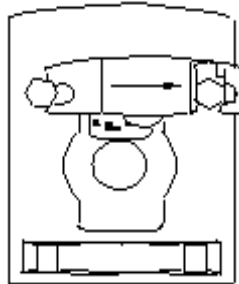

Figure 4.
2. Slide the knifeholder to the right, as shown in Figure 4.